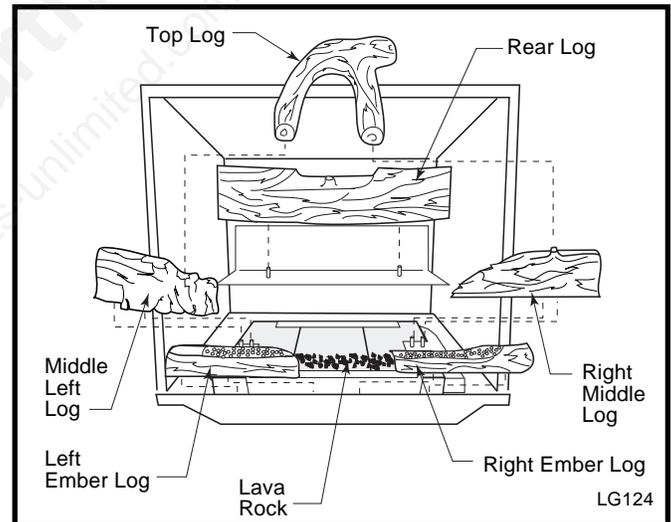

Fig. 53 Log placement for Models 2950 and 2951.
1. Install the rear log by engaging it with the pins on the sheet metal shelf at the back of the firebox. (Fig. 53)
2. Install the left and right middle logs by engaging holes on their bottoms with pins on the burner brackets. (Fig. 53)
3. Push the burner assembly fully toward the rear, by hand. Place the two front ember log sections in the slot at the front of the firebox, shown in Figure 53. Reposition the burner tray fully forward against the ember logs.
4. Loosely sprinkle some of the lava rocks sparingly on top of the burner between the ember logs and the middle logs. Do not place any lava rocks behind the middle logs. (Fig. 53)
5. Engage the top log with the rear log and the pins on the middle logs. (Fig. 53)